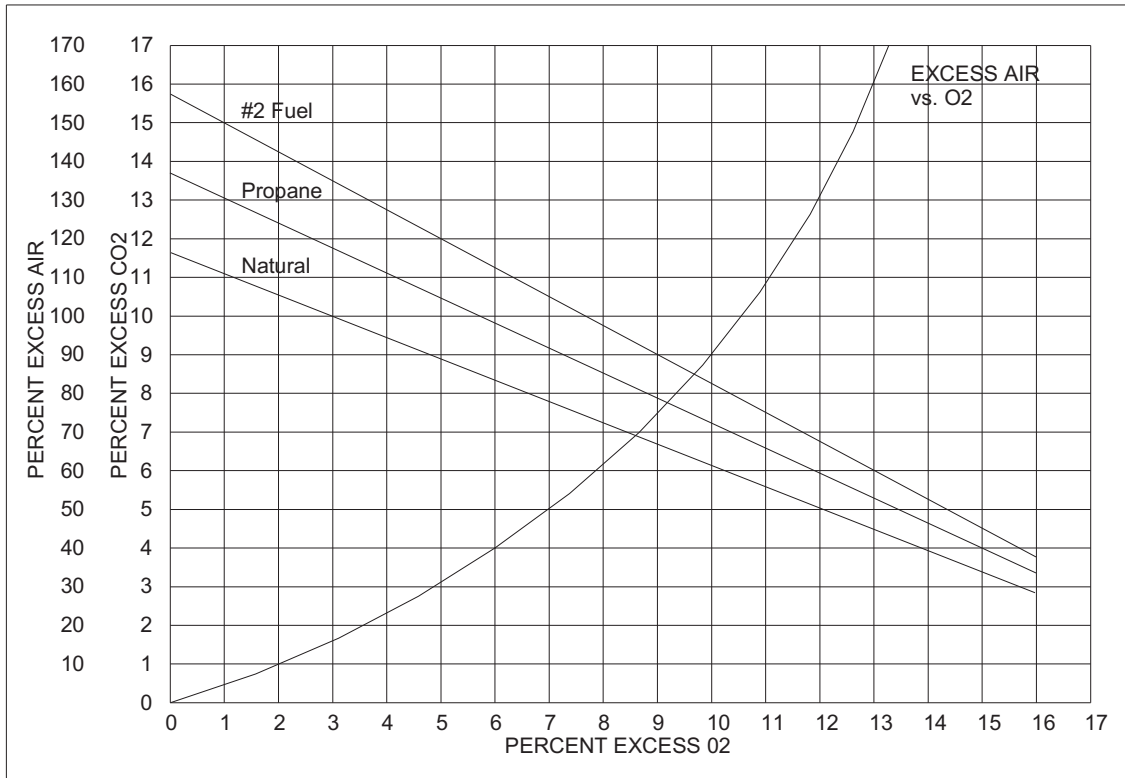

Figure 7: CO₂ versus O₂
- 3.1.2 See Figure 7 for CO₂ versus O₂ Curves. These curves correlate the relative values of O₂ and CO₂ for the fuels listed, as well as the percentage of excess air at given O₂ and CO₂ values.